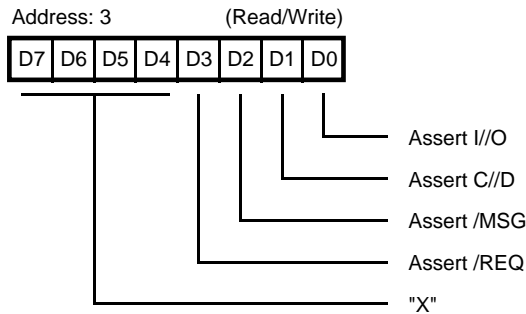

Figure 9. Target Command Register
Target Command Register. *Address 3 (Read/Write).* When connected as a target device, the Target Command Register (Figure 9) allows the CPU to control the SCSI Bus Information Transfer phase and/or to assert /REQ by writing this register. The Target Mode bit (Mode Register, bit 6) must be True (1) for bus assertion to occur. The SCSI Bus phases are described in Table 2.